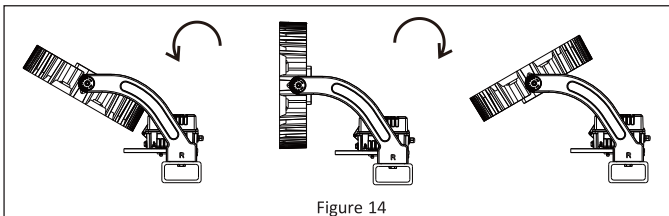

Figure 14
7. The LED array can now be aimed to achieve optimal light coverage. **See Figure 14.**